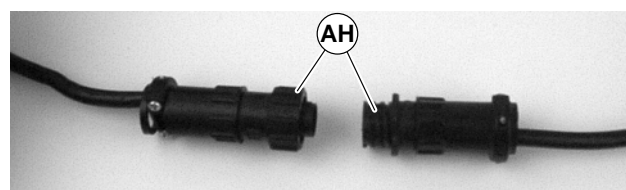

Figure 43
3. For DC variable speed motor, unplug motor cord at disconnect (AH of Figure 43).